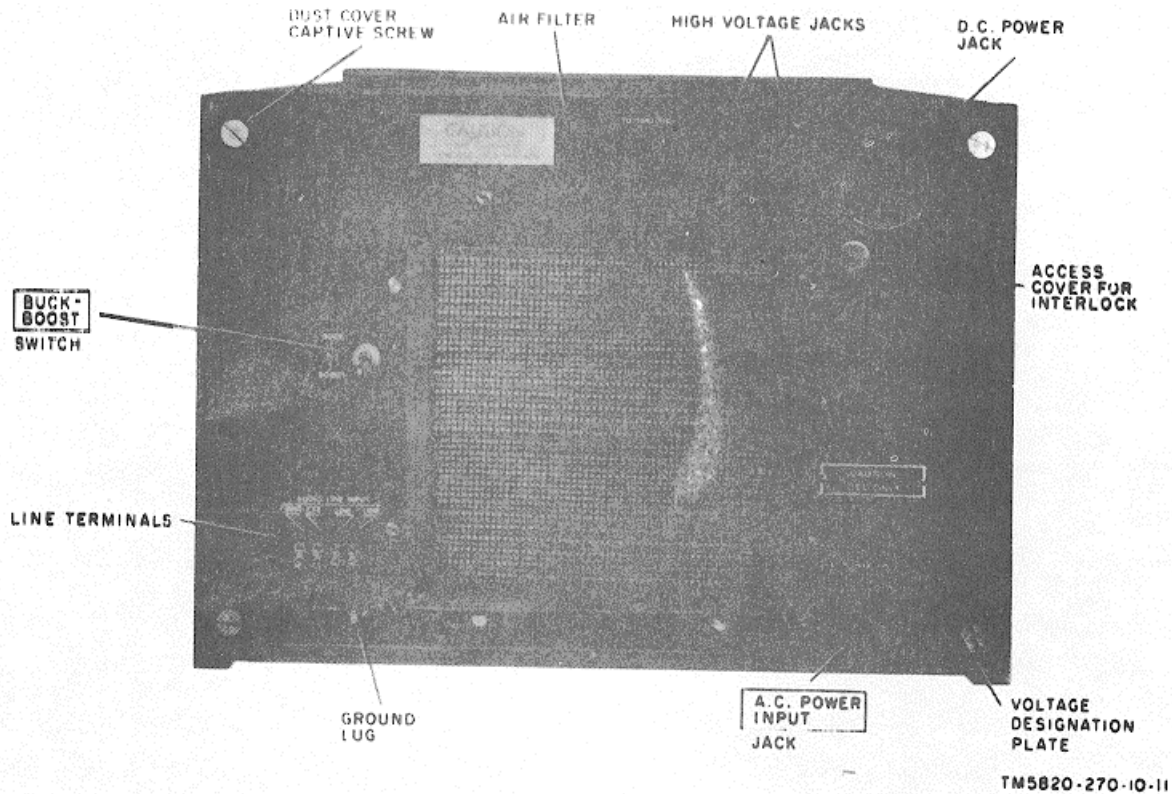

Figure 2-4. Modulator-Power Supply M-141(*)/GR, rear panel
- b. Check to make sure that the line from the remote operating point is connected to the LINE terminals at the rear of the MID-141(*)/GR (fig. 2-4).